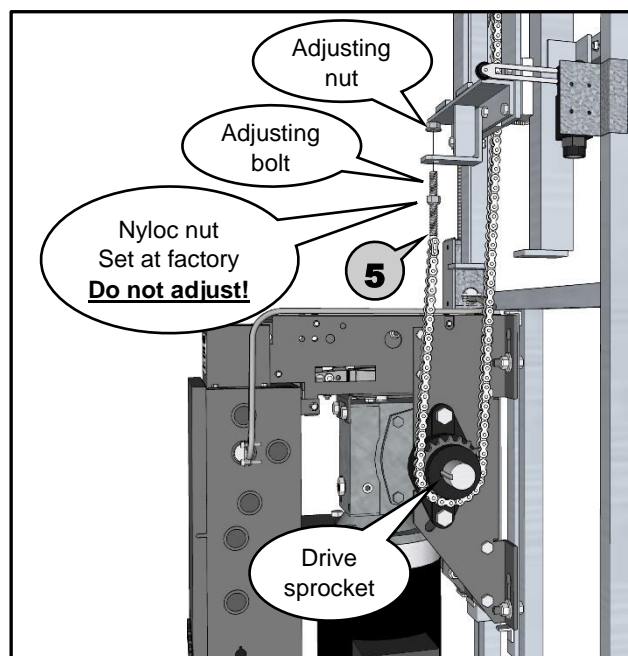

Figure 12
- 5** The other end of the chain should hang down behind the trolley and be placed around the drive sprocket of the motor. Then insert the threaded adjusting bolt, on the end of the chain, into the hole on the bottom of the trolley, where the adjusting nut is tied on, and use the adjusting nut to secure the adjusting bolt to the trolley. Use a blade screwdriver or needle nose pliers to hold chain from twisting and tighten adjusting nut until Nyloc nut is tightly seated against trolley. **Do not adjust Nyloc!** (see Figure 12)